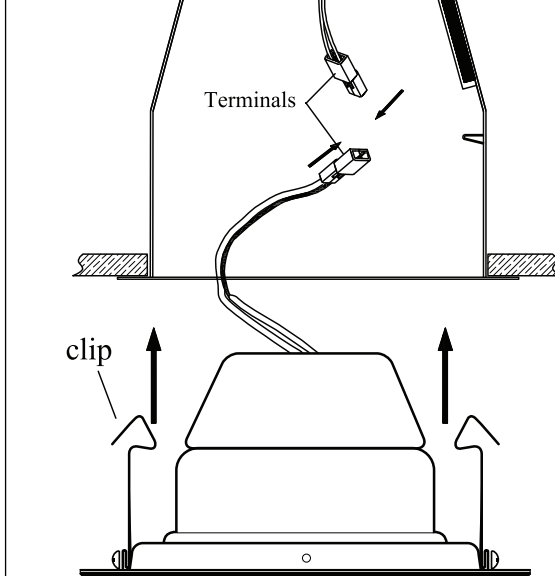

FIG. 4
- Step 5. Gently push trim into place (see FIG. 4).